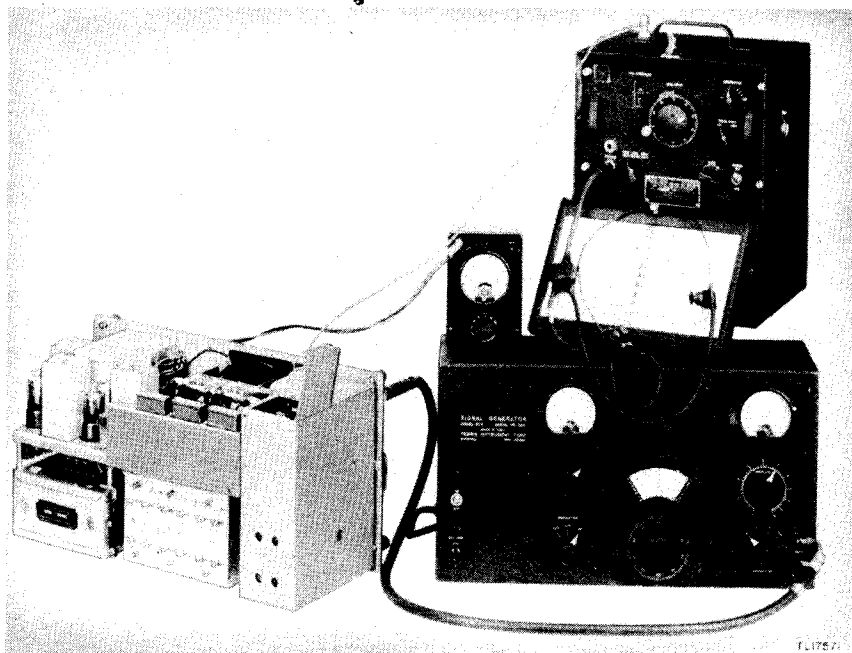

Figure 75. Typical test set-up for receiver r-f oscillator alignment.
a. PREPARATION. Set up the receiver and alignment equipment as shown in figure 75. Calibrate the signal generator for a 2,900-kc signal (h-f model) or for a 255-kc signal (m-f model) as described in paragraph 83. Set the receiver BAND CHANGE switch to Band A, the OFF-M.V.C.-A.V.C. switch to M.V.C., the C.W.-OSC. switch at OFF, the CRYSTAL PHASING control to OUT (h-f model) or the SELECT CONTROL at maximum (m-f model), and the VOL control at maximum. Set the receiver dial at 2,900 kc (h-f model) or at 255 kc (m-f model). Remove the screw caps which permit access to the r-f oscillator trimmer adjustment screws, loosen the screw locknuts, and open the hinged cover of the r-f oscillator cover.
b. PROCEDURE. (1) Attach the signal generator ground lead to